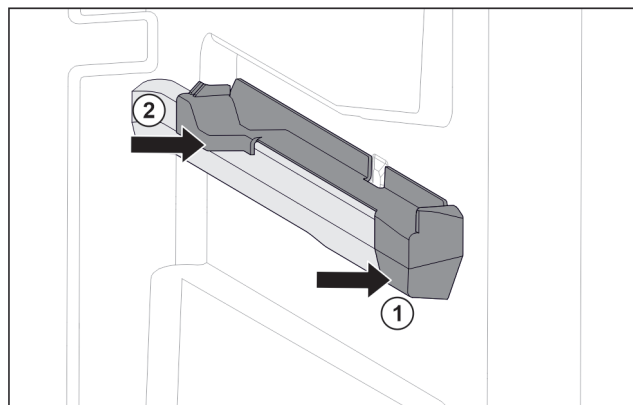

Fig. 154 Attachment on the right moulded rib
- Position attachment on moulded rib at the front. Fig. 154 (1)
- Press on attachment at the back. Fig. 154 (2)